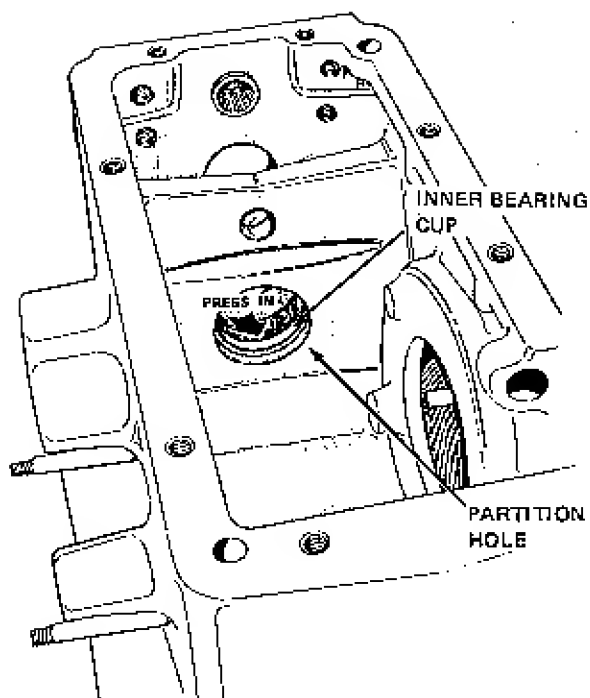

Figure 7. Final Gear Inner Bearing Installation
- a. Using a long wooden block and hammer, carefully and evenly tap clean inner bearing cup in large partition hole of transmission case (Figure 7). Install bearing cone in inner bearing cup.